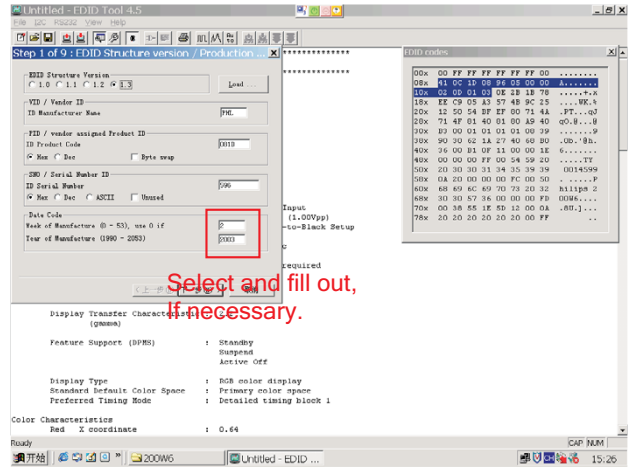

Fig. 21
- Click (new function) icon from the tool bar, bring up Step 1 of 9 as shown in Fig. 21. EDID45 DDC application provides the function selection and text change (select & fill out) from Step 1 to Step 9.